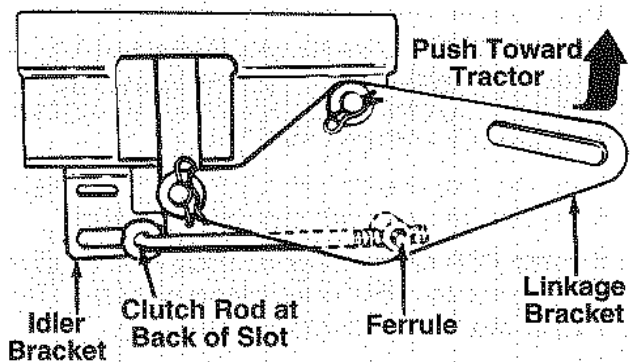

FIGURE 12.
14. All units **EXCEPT** those with 44" decks: Adjust the control rod as follows. See figure 12.